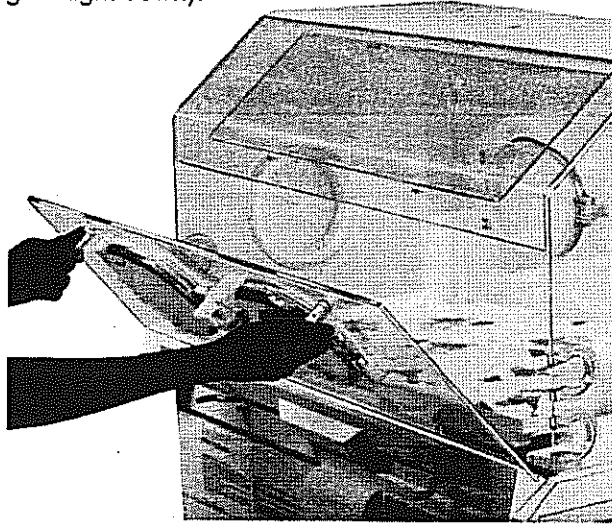

FIGURE 2.7 ACCESS PANEL OPERATION
- H. CHECK ACCESS PANEL DETENT.** Rotate both latch/releases inwardly and open the Access Panel as shown in Figure 2.7; the Air Curtain Cover should rise slightly as the Access Panel opens, and the detents should create a noticeable “drag” during initial movement of the panel. Pivot the Access Panel to the full open position (hanging straight down).